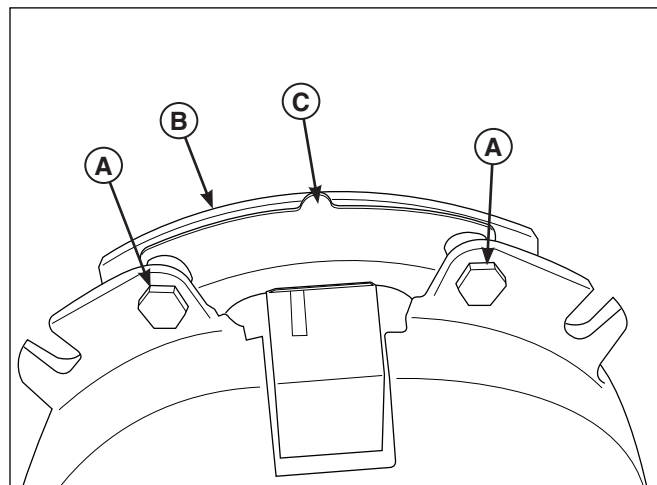

Figure 48. PTO Clutch Adjustment
1. Loosen both brake mounting bolts (A, Figure 48) 1/2 to 1 full turn as shown in Figure 48.
IMPORTANT NOTE: Do not remove the brake pole (B, Figure 48) from the clutch. The brake pole must remain in the correct position to ensure proper brake torque.